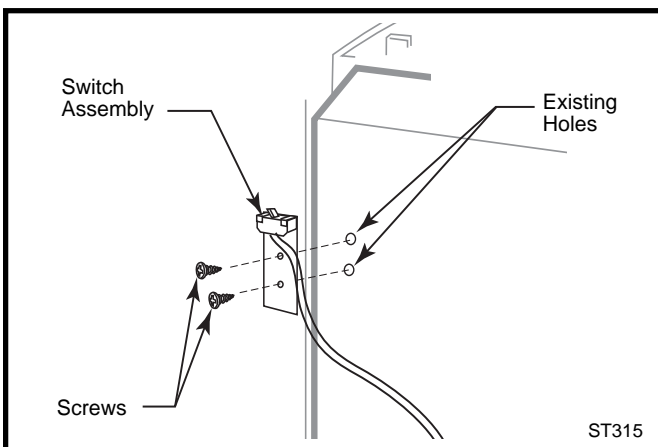

Fig. 42 Attach switch assembly to rear shroud.
1. Attach switch assembly to left rear side of stove shroud using two screws and existing holes in shroud. (Fig. 42)